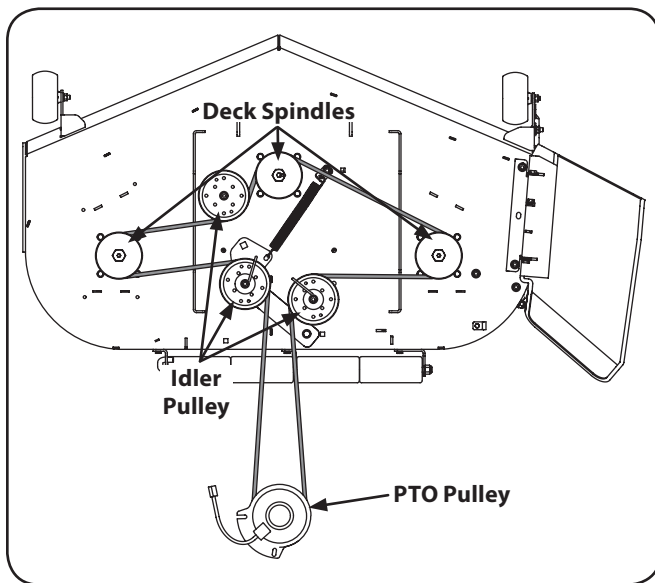

Figure 7-8
6. Route the belt as shown in Fig. 7-8. After routing the belt around the PTO pulley, use a ½" drive in the idler pulley bracket and turn towards the back of the tractor to finish routing the belt around the idler pulley.
3. Remove the belt from the spindle pulleys. Refer to Fig. 7-8.
4. Install the new belt around the spindle pulleys as shown in Fig. 7-8 and reinstall the belt covers.